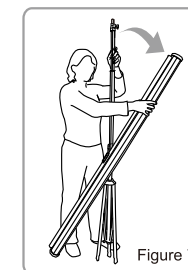

Figure 7
4. Rotate the housing counterclockwise to horizontal level. (Figure 7)
Method 1: Pull up and hang the bar ring onto the Plastic hook. (Figure 7 - 8)